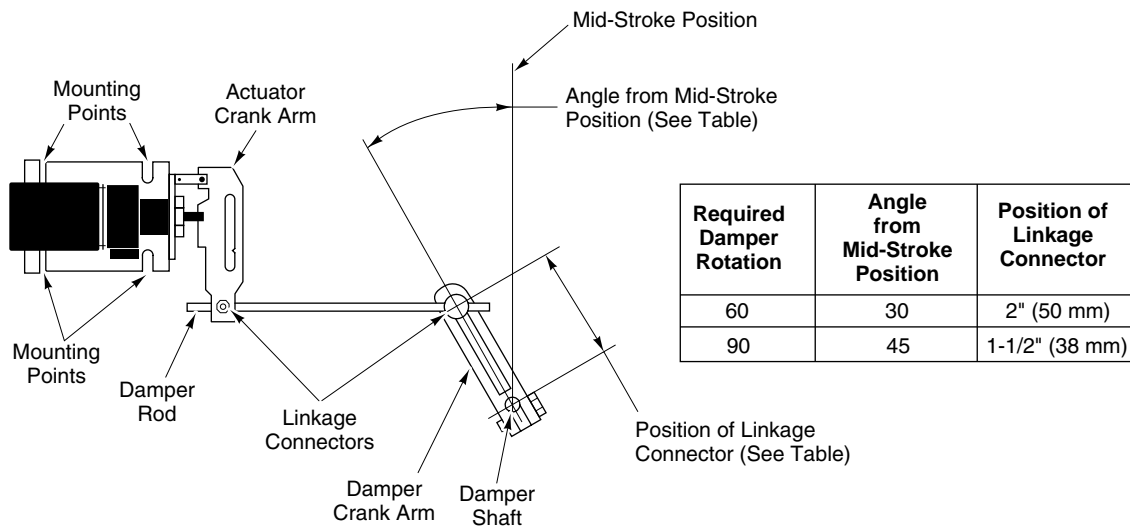

Figure-16 Actuator/Damper Mounting.
- c. If possible, select a mounting position such that, at mid-stroke, the actuator crank arm and the damper crank arm on the drive shaft are each at a 90° angle to the damper rod (refer to Figure-16). This is the recommended mounting position. It may be necessary to swivel the actuator linkage to arrive at this mounting location.
4. Mount a ball joint connector in the slot on the damper crank arm. To achieve 90° of damper rotation, position the connector 1-1/2" (38 mm) from the centerline of the shaft hole on the crank arm. For 60° of damper rotation, position the connector 2" (50 mm) from the shaft hole centerline. Typically, 60° to 70° of rotation (maximum is 90°) is sufficient to permit almost maximum air flow through the dampers. Refer to Figure-16.
5. Rotate the damper to its open position. Install and secure the damper crank arm (with ball joint connector) to the damper shaft, positioning the crank arm as follows (refer to Figure-16):